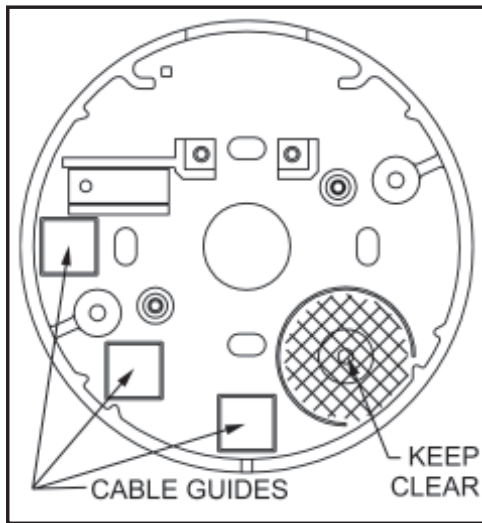

Figure 16 - Cable Guide Locators
4. Install at least one of the stick-on cable guides in an appropriate position to restrain the cables. (See Figure 16 for possible locations.)
- Depending on the thickness of the container, additional cable guides may be necessary to ensure the cables are sufficiently restrained. Some possible locations are shown in Figure 16. Install additional guides as needed, and route the LCD and generator cables through them to ensure that the cables do not get routed through the “KEEP CLEAR” area, over the Zebra connector, or near where the geared end of the dial hub will project through the dial ring cover.
- Align the dial ring cover with the dial ring so that the generator will seat into the five o'clock position and the four aligning lugs align with the corresponding slots in the dial ring. (See Figures 16 and 17.)